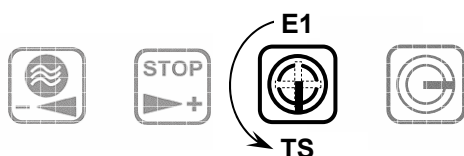

Fig. 4.7 A
1. Turn the key on the programming key switch from position E1 to position TS (cf. Fig. 4.7 A). The programming key switch blinks red. The buttons containing products are illuminated with a green light. The following message is displayed: